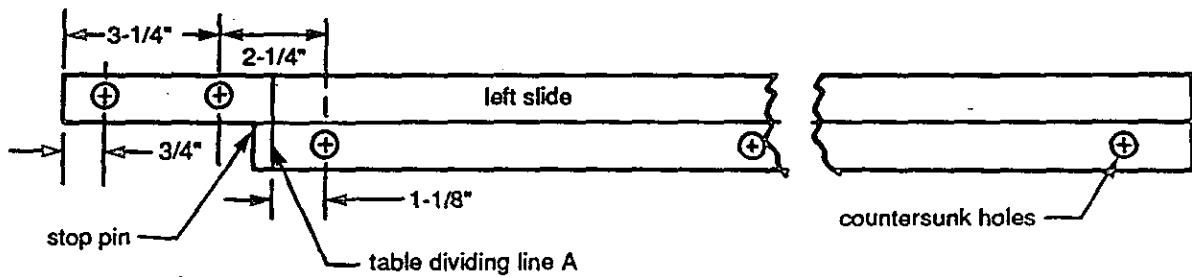

Fig. 4
5. Centerline (A) should locate on dividing line on underside of table. (Fig. 4)